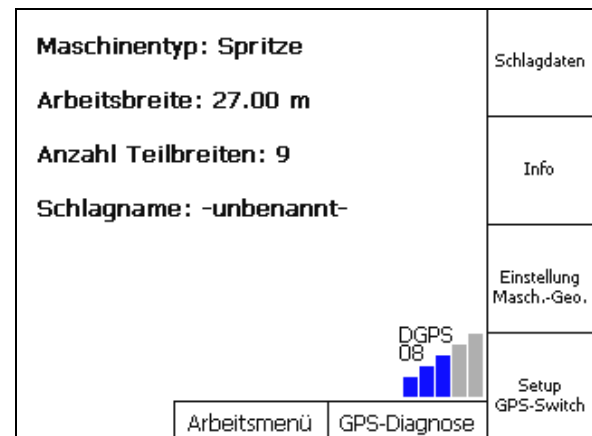

Fig. 3
Example: (Fig. 3/6)
- Figure 3
The main menu is divided into 3 submenus into which the required data must be entered before beginning work (Fig. 3).